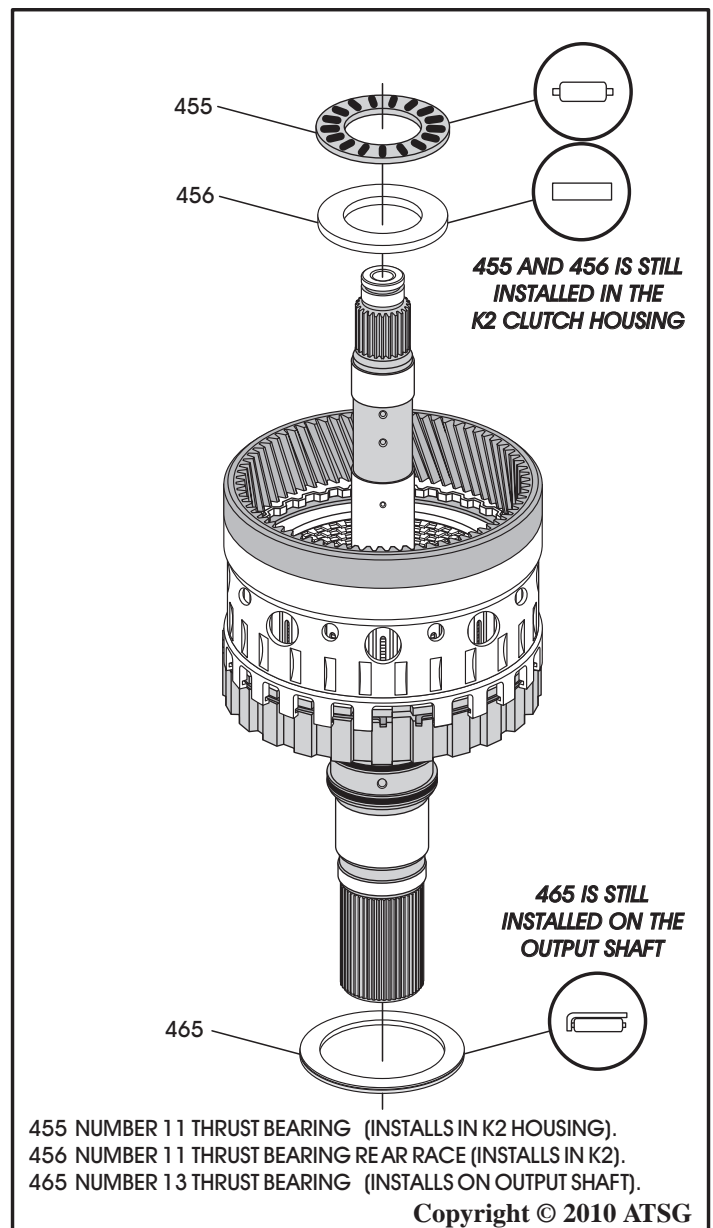

Figure 202
3. Ensure that the number 13 thrust bearing is still installed on output shaft (See Figure 202).
4. Ensure that the number 11 thrust bearing and the number 11 rear race is still installed in K2 clutch housing, as shown in Figure 202.